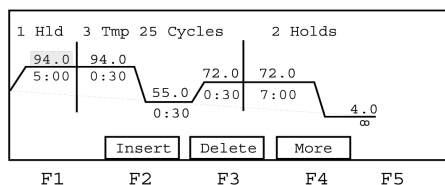

Figure 4-14. Insert screen
From the Insert screen (Figure 4-14), you can insert holds and cycles, and program pauses that the instrument inserts into your method as it runs.
3. Press **F2-Insert**. This displays the Insert screen (Figure 4-14).